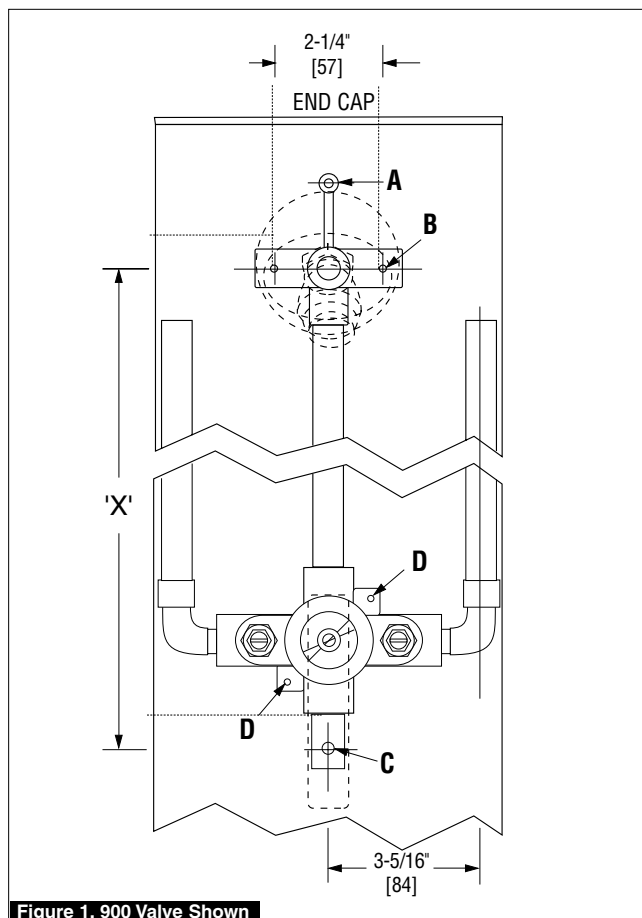

Figure 1. 900 Valve Shown
- Mount Corner-mounting brackets to wall. To find proper distance, measure distance "X" between holes on upper and lower (B and C, See Figures 1 & 2) fittings of outlet pipe (for 900 valve, lower fitting is sweated on tub-side of the body).
- Attach shrouding to piping with screw at A & D (See Figure 1).